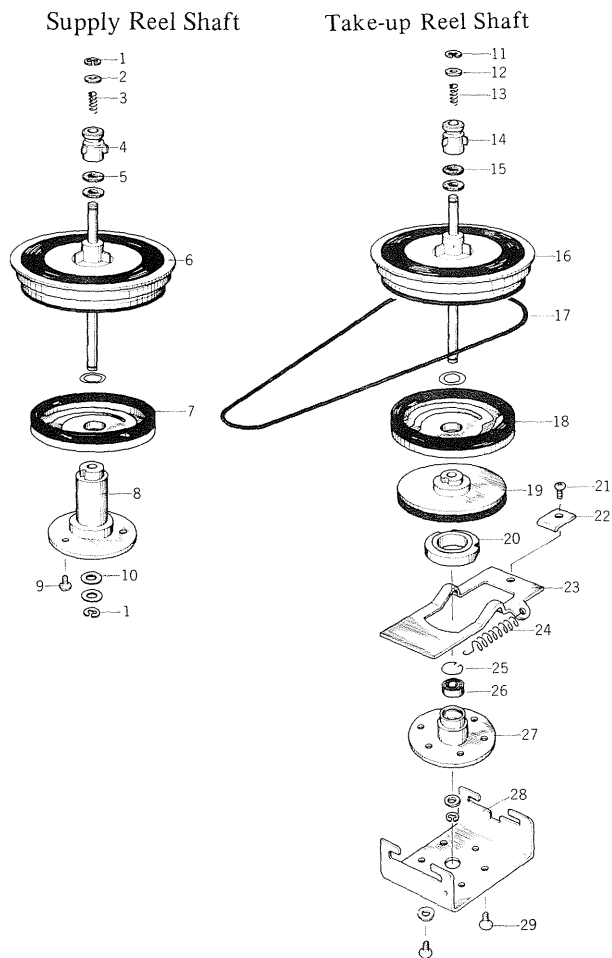

Fig. 4
7. ADJUSTMENT OF THE TENSION OF SUPPLY AND TAKE-UP REEL SHAFT IN THE PLAYBACK AND RECORD CONDITIONS. (Fig. 4)
8. ADJUSTMENT OF HEIGHT OF REEL SHAFT SHAFT (Refer to Figs. 4 and 5)